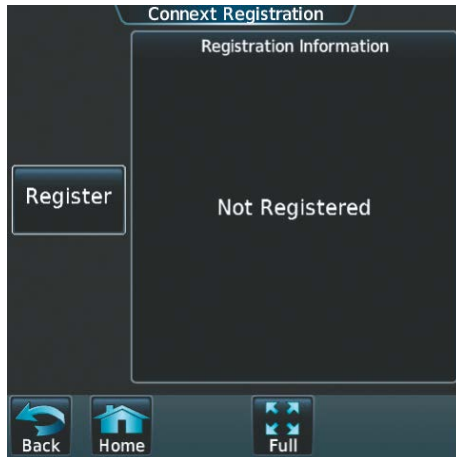

Figure 8-41 Connex Registration Display
- From the **Home** Screen, touch **Utilities > Setup > Connex Registration > Register** (Figure 8-41).